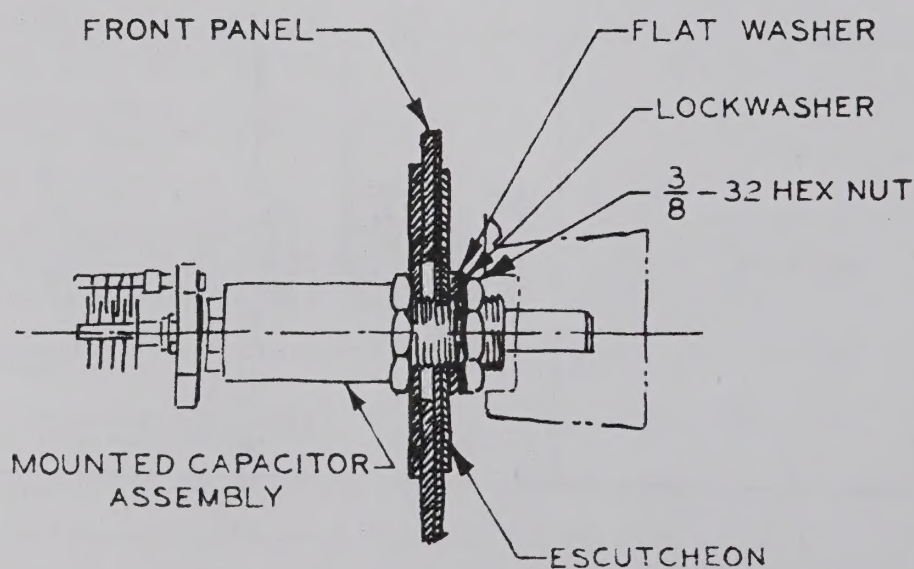

FIG. 2 CAPACITOR MOUNTING KWM-2
25. Slip the escutcheon plate marked "Rejection Tuning" over the bushing, then slip on a 7/8" flat washer, a lock washer and 3/8"-32 nut. See Fig. 2.